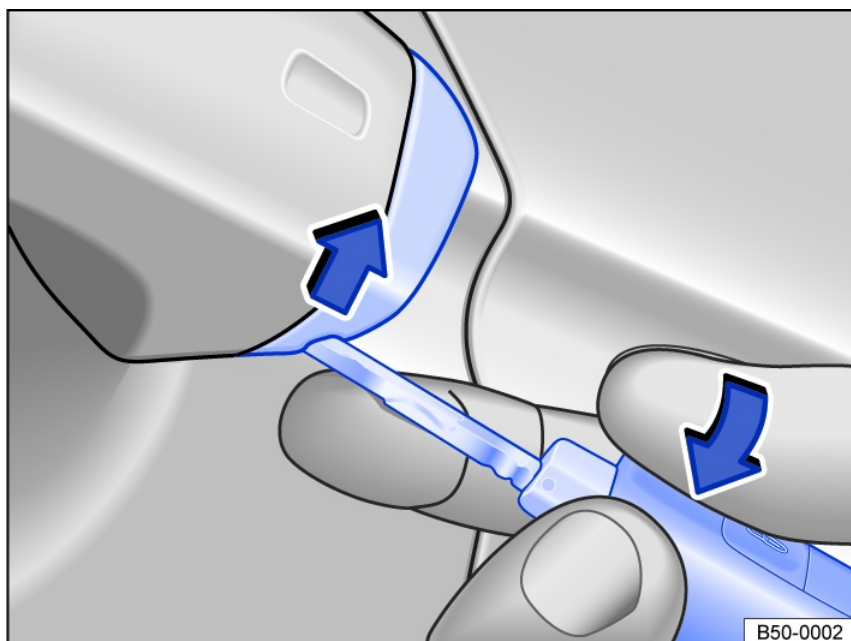

Fig. 59 Driver's door handle: prying off the cap.
- Use the vehicle key to pry the cap off in the direction of the arrow fig. 59.